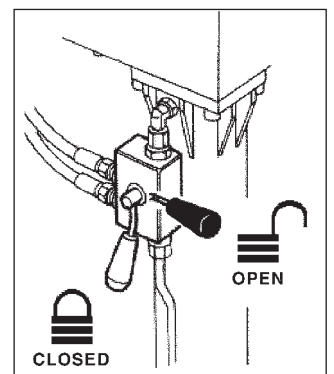

fig. 17
- Open the tap of the valve for the required outrigger ram. Fig. 17
- Open the taps of the valves placed on the outrigger rams. Fig. 17
- Open the taps of the valves (fig. 17) placed on the rams.